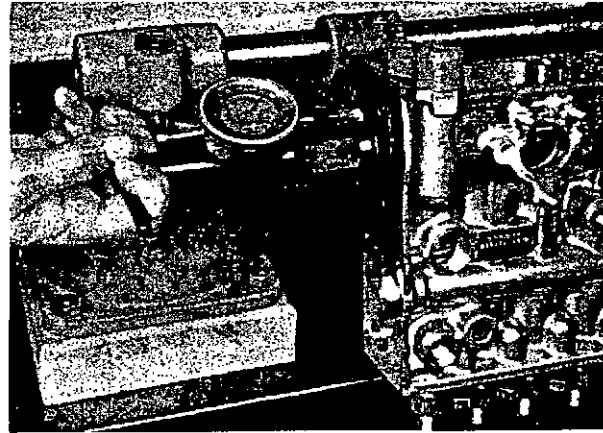

Fig. 41 Checking camshaft end float
15. Measure the camshaft end float by using tool 0 681 440 013, screwed on to the drivenut thread, and dial gauge 1 687 233 011, as shown in fig. 41. Limits are 0.0008 to 0.0024 inch (0.02 to 0.06 mm.). Adjust if necessary by varying the shims beneath the bearing plate. Fit the 'O' ring when finally assembling the bearing plate.